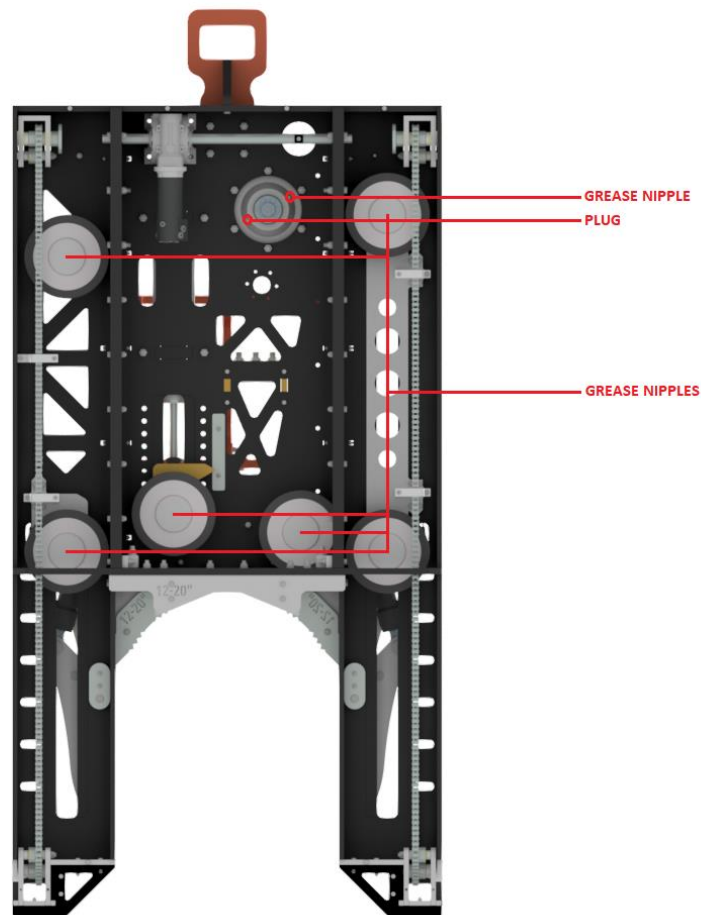

Figure 5.1: Grease nipples and plug location
4. Check/fill motor housing with grease after use. See Figure 5.1 for grease nipples and plug location.
- Grease all support wheels. Grease will escape through the bottom shaft/wheel flange when full. Ref figure 5.1.